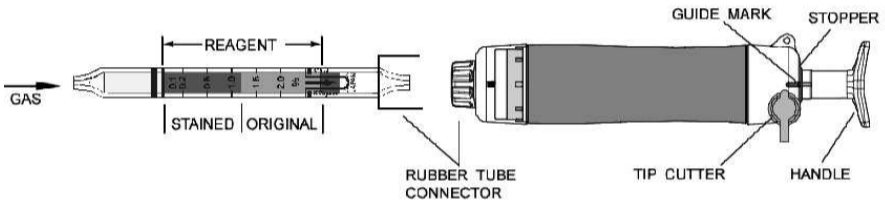

Fig.1
- ② Insert the detector tube into the aspirating pump securely as shown in Fig.1. (Arrow mark shall point to the pump.)
- ③ Align the guide marks on the shaft and stopper of the aspirating pump.
- ④ Pull the pump handle at a full stroke until it locks and wait for 1.5 minutes or until the completion of sampling is confirmed with the flow indicator of the pump (See descriptions about the flow indicator in the instruction manual of the pump).
- ⑤ On completion of sampling, read the scale at the maximum point of the stained layer.
- ⑥ When the concentrations are over the scale range, a 1/2 pump stroke can be used to determine concentrations of 1.0 to 5.0%.